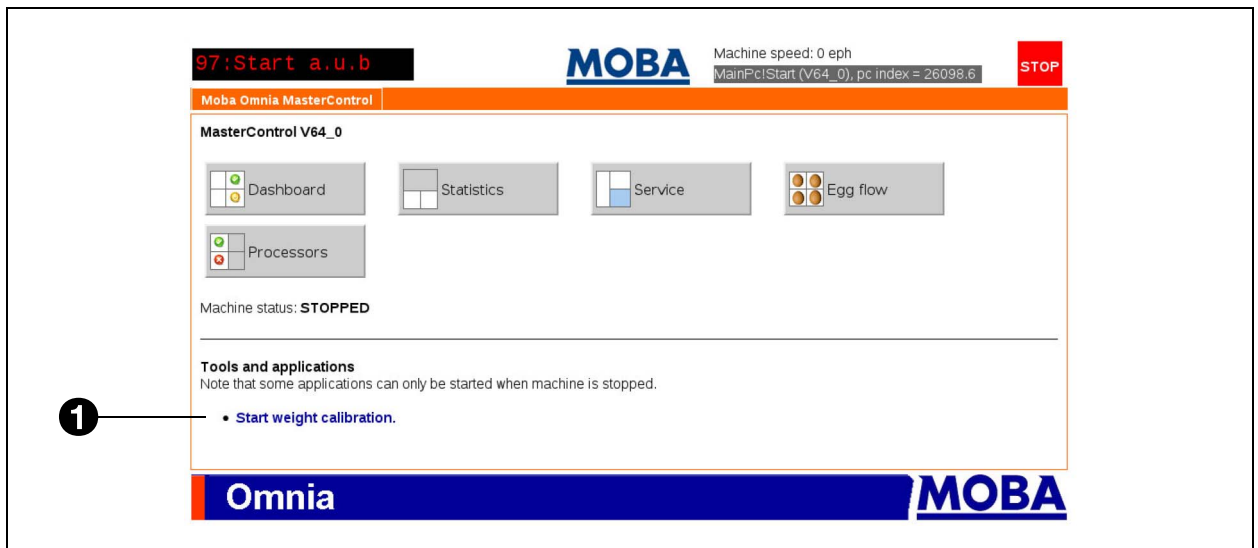

Fig. 121 - Omnia Master Control
- 1 Go to 'Start weight calibration' on the Omnia Master Control PC. See fig. 121.